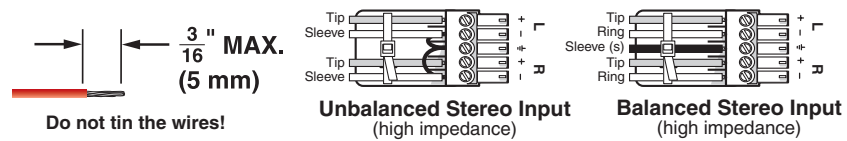
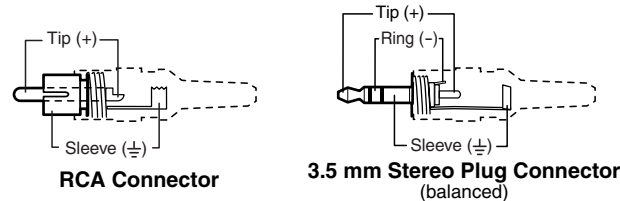

Figure 2-6 — Captive screw connector wiring for inputs
Figure 2-7 — Typical audio connectors
- ⑤ **Input audio connectors** — Connect balanced or unbalanced stereo or mono audio to these 3.5 mm, 5-pole captive screw connectors. Connectors are included with the seamless switcher, but you must supply the audio cable. Figure 2-6 shows how to wire a connector for the appropriate input type and impedance level. High impedance is generally over 800 ohms.
NOTE When making connections for the seamless switcher from existing audio cables, see figure 2-7. A mono audio connector consists of the tip and sleeve. A stereo audio connector consists of the tip, ring, and sleeve. The tip, ring, and sleeve wires are also shown on the captive screw audio connector diagram, figure 2-6.